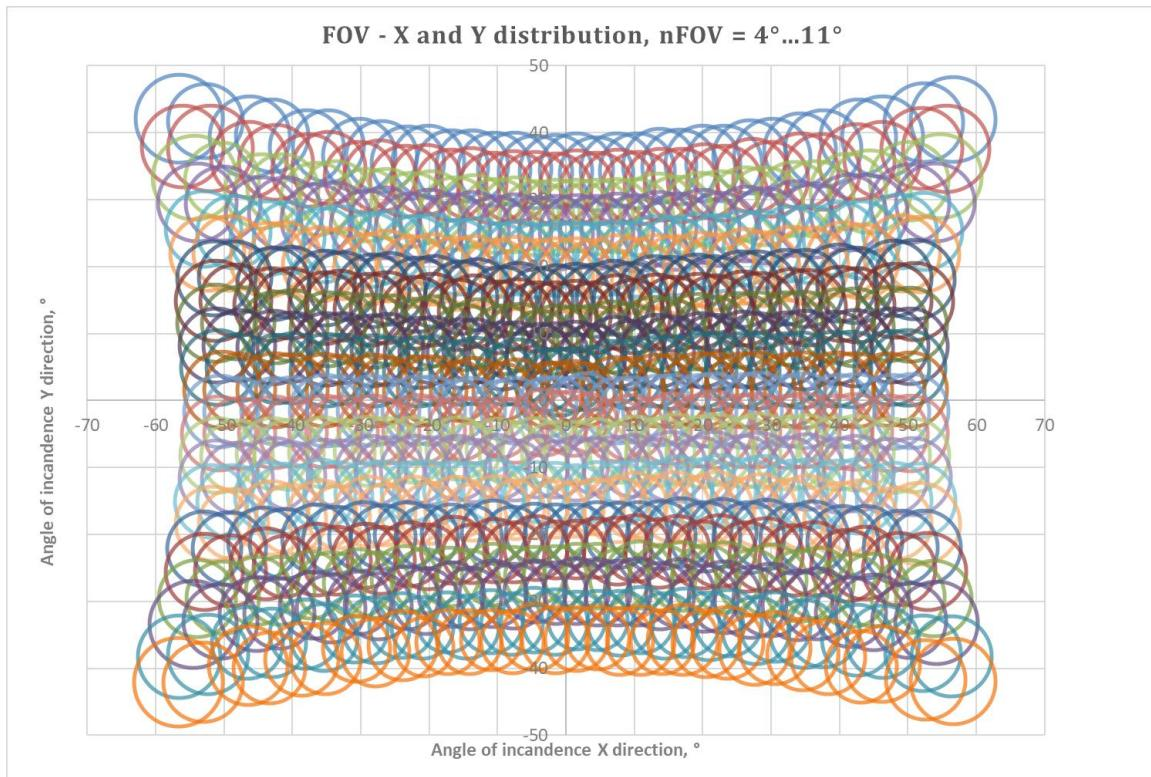

Figure 23 – MLX90642BCA (wide FOV) typical nFOV bubble diagram
**NOTE:** The above Figures 23 and 24 show the nFOV of each individual pixel. These figures show the distortion due to the lens. In the field of view figures this looks like pincushion distortion, but the resulting image distortion is actually a barrel distortion.